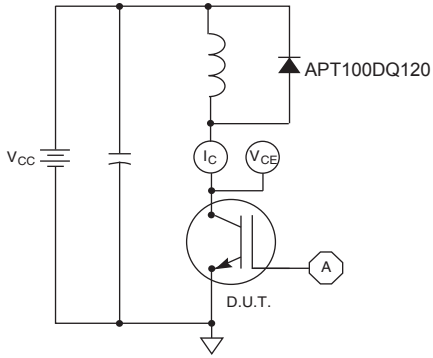

Figure 21, Inductive Switching Test Circuit
- ① Repetitive Rating: Pulse width limited by maximum junction temperature.
- ② For Combi devices, I_{ces} includes both IGBT and FRED leakages.
- ③ See MIL-STD-750 Method 3471.
- ④ E_{on1} is the clamped inductive turn-on energy of the IGBT only, without the effect of a commutating diode reverse recovery current adding to α the IGBT turn-on loss. Tested in inductive switching test circuit shown in figure 21, but with a Silicon Carbide diode.
- ⑤ E_{on2} is the clamped inductive turn-on energy that includes a commutating diode reverse recovery current in the IGBT turn-on switching loss. (See Figures 21, 22.)
- ⑥ E_{off} is the clamped inductive turn-off energy measured in accordance with JEDEC standard JESD24-1. (See Figures 21, 23.)
- ⑦ R_G is external gate resistance not including gate driver impedance.